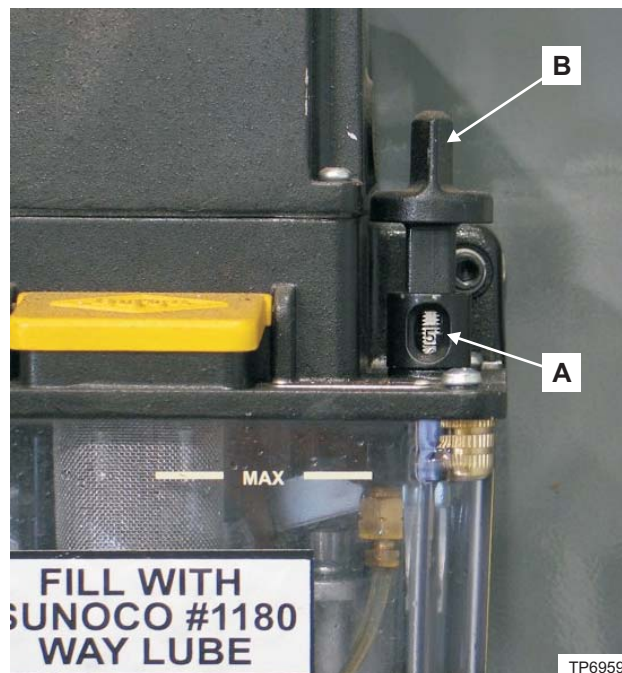

Figure 5.2 - Manual Feed Knob and Locking Collar
1. Lift collar "A" to allow Manual Feed knob "B", Figure 5.2, to be rotated.